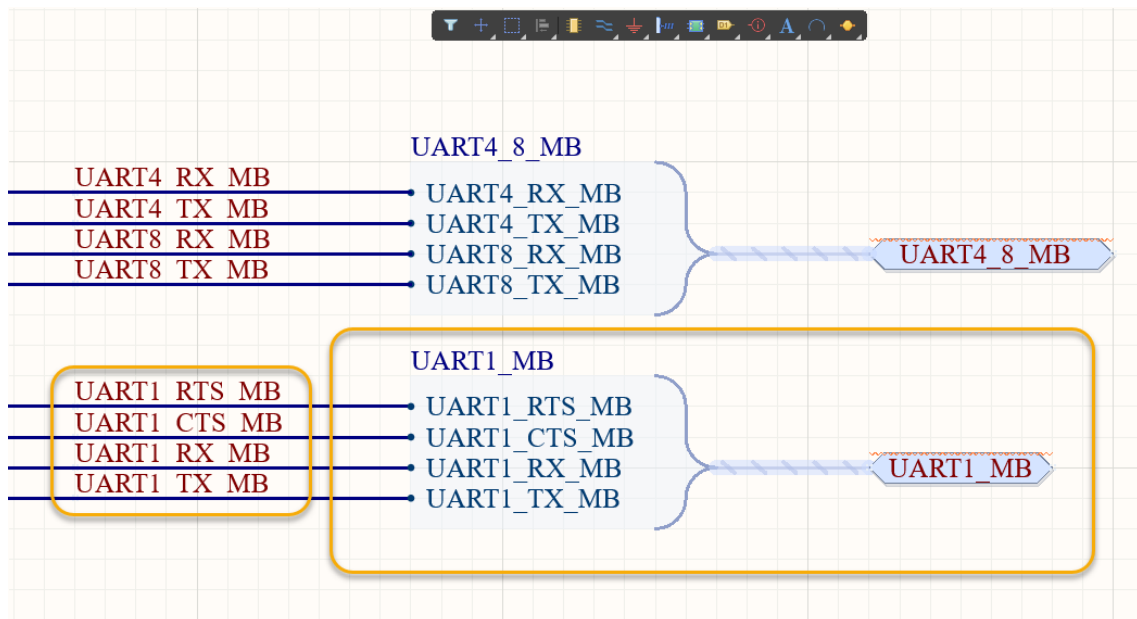

Figure 16. UART1\_MB at 6\_uart\_esc\_i2c.SchDoc
34. Left-click to place it onto the `UART1` wires as shown in Figure 16.